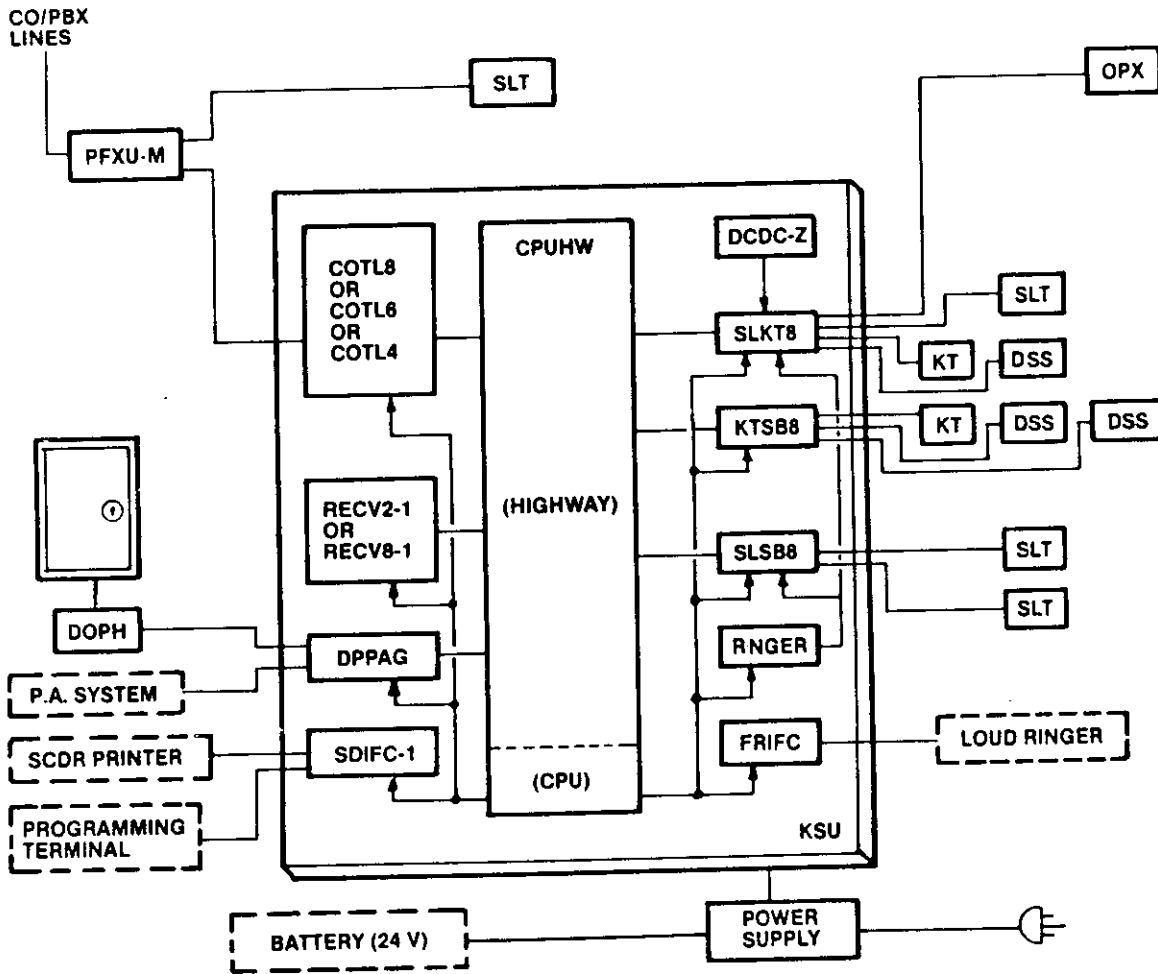

FIGURE 2-2 ZT-D SYSTEM COMPONENTS
3.02 FIGURE 2-2 illustrates the ZT-D Series Electronic Key Telephone system components.